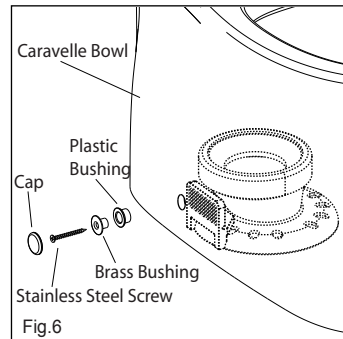
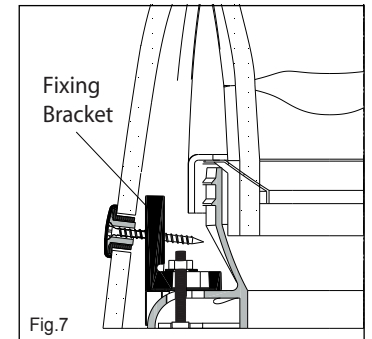

Fig.6
Fig.7
6. Insert the plastic bushing and brass bushing into the Bowl fixing hole as shown in Fig.6. Secure the bushings through the holes in fixing bracket with stainless steel screws as shown in Fig. 7. Cover the holes with caps.